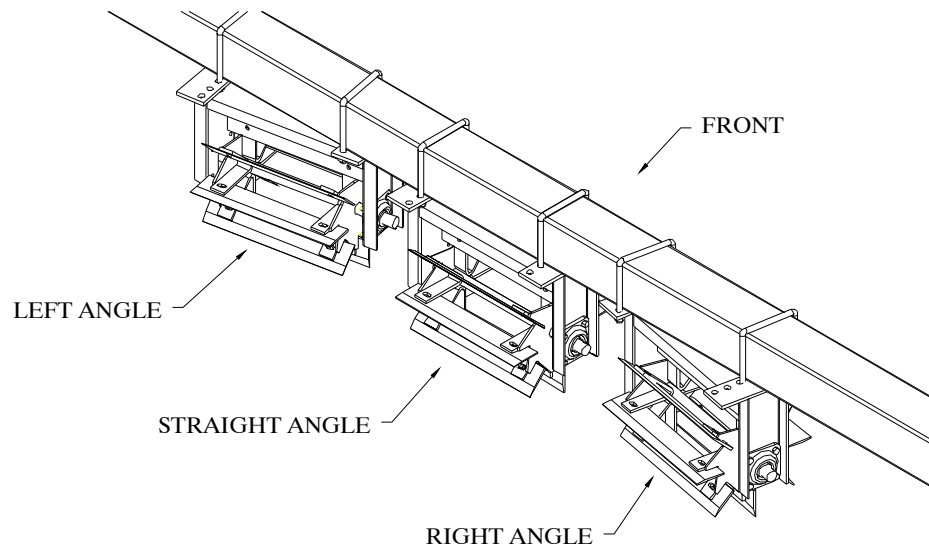

Figure 4
(Refer to Figure 4 and 5)
3. Determine which angle you wish to run the Reel Assemblies. Figure 4 shows the three available positions, left, right and straight. The degree of the angle can also be varied. Generally a right or left angle will cut better. If you have a double row unit the best results may be achieved if the front brackets are run at one angle and the rear brackets are run at the opposite angle.